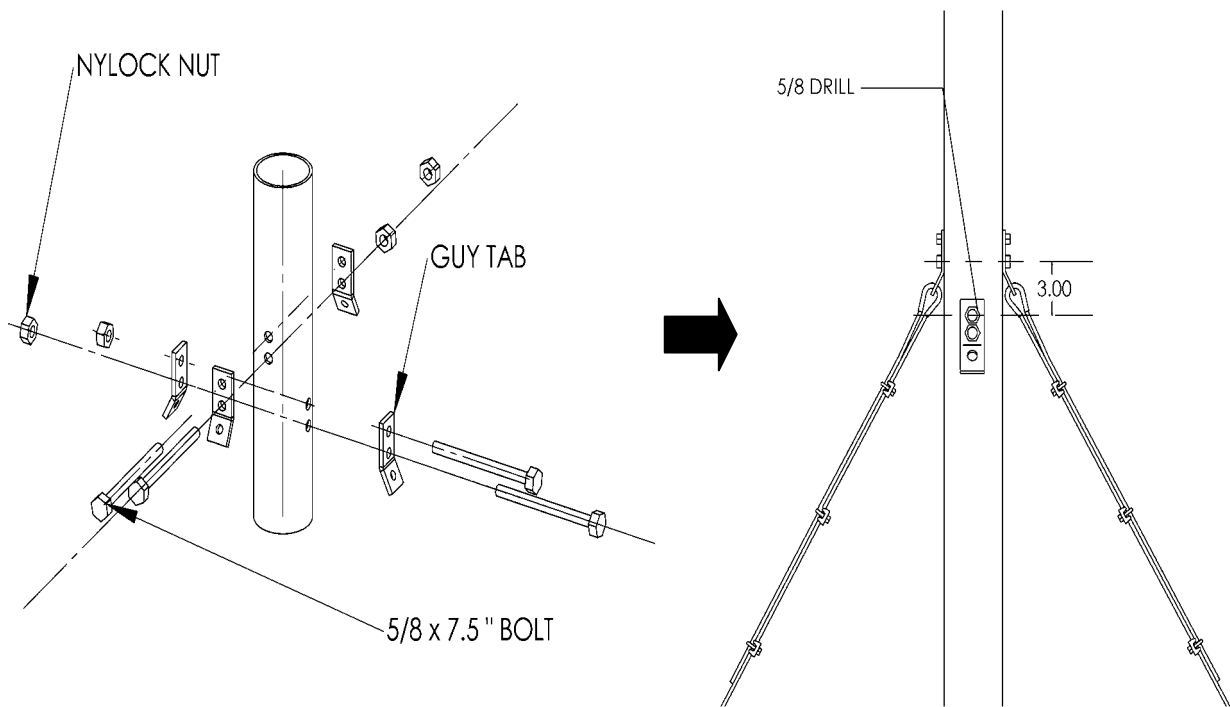

Figure 1.2
- The guy tab holes have been drilled according to Figure 1.2.